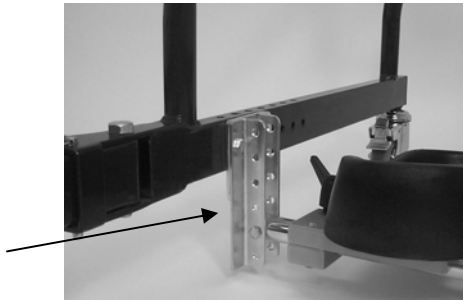

Figure 5
3. The height of the foot pads is determined by sliding the Foot Pad Assembly Bar up or down to one of the six hole settings found on the Height Adjustment Brackets and securing with the hex bolts (*Figure 5*). Additional height adjustment is available by inverting the entire Foot Support System including the Height Adjustment Brackets for the smaller settings.